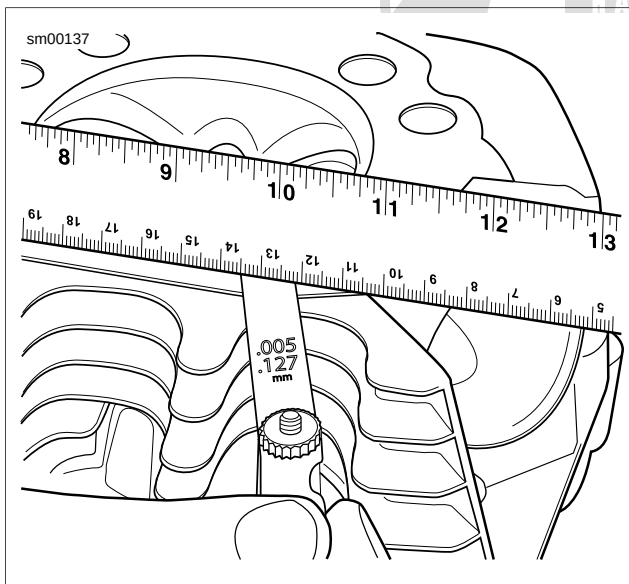

Figure 3-49. Checking Gasket Surface
4. See Figure 3-49. Check head gasket surface on head for flatness. Machine or replace any head which exceeds SERVICE WEAR LIMIT of 0.006 in. (0.152 mm).